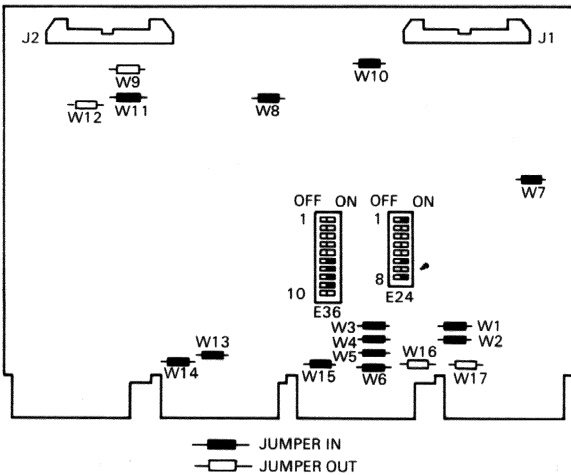

Figure 12 Jumper and Switch Locations
4. Check new PCB for jumper and switch position (see Figure 12)